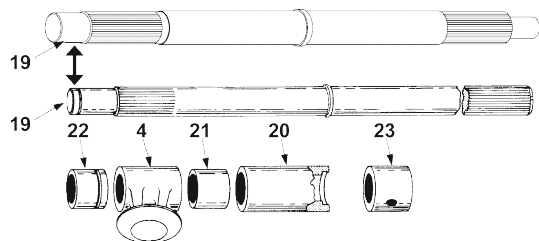

Figure 10
- B. Place valve body (1) on flat surface so that the seat is down.
- C. Coat lower guide bushing (22) with recommended lubricant and insert into the body.
Note: Groove in the guide bushing (22) must be towards the body center. Refer to Figure 10 for correct assembly sequence. If the shaft (19) is the previous design it may have a circular groove, if so, install the retaining ring (18).